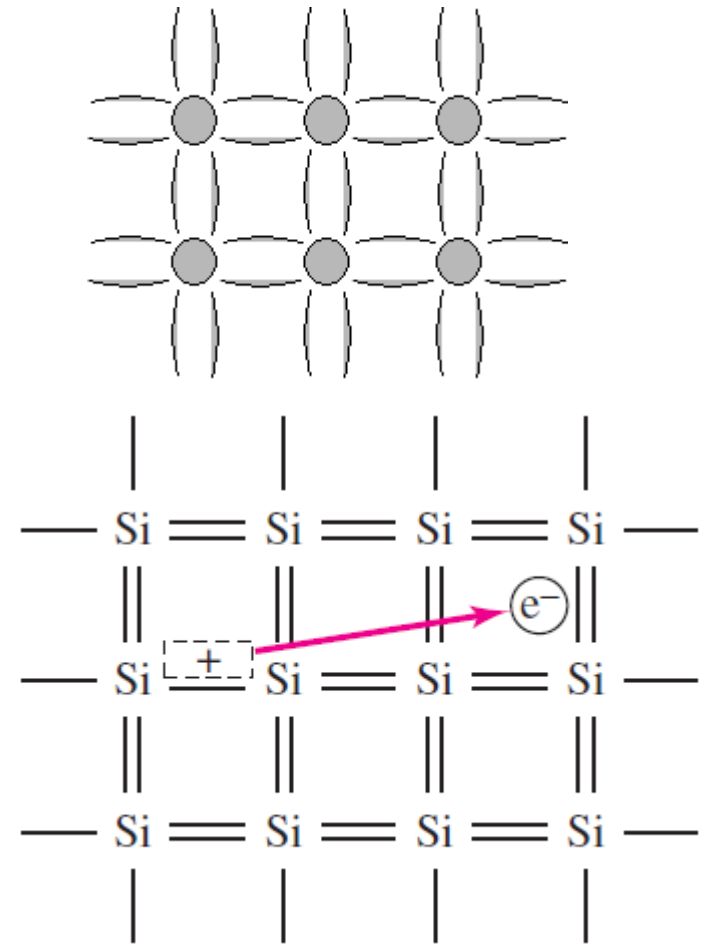

Figure 1.3
- A **positively charged “empty” state** is **created** at that position (Figure 1.3).